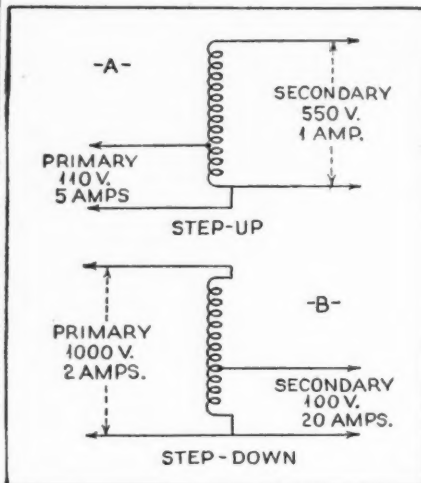

Figure 1. (A) A step-up auto-transformer. (B) A step-down auto-transformer
THE ordinary type of transformer has its primary and secondary windings distinct and insulated from each other. It is not necessary to have the two windings distinct, however. In the auto-transformer shown in Figure 1 the secondary winding is connected to the primary winding. This type of transformer may be built either to step up the voltage as in (A), in which case the primary winding is a portion of the secondary, or it may be built to step down the voltage as at (B), in which case the secondary winding is a portion of the primary. The position of
the tap on the winding determines the voltage and current ratios of the primary and secondary. The voltage across the secondary winding bears the same relation to that across the primary part as though there were two separate windings, and the ratio of the voltages is the ratio of the number of turns included between the secondary and primary terminals, just as in the case of the ordinary transformer. The voltages and currents for a particular case are also shown in Figure 1.